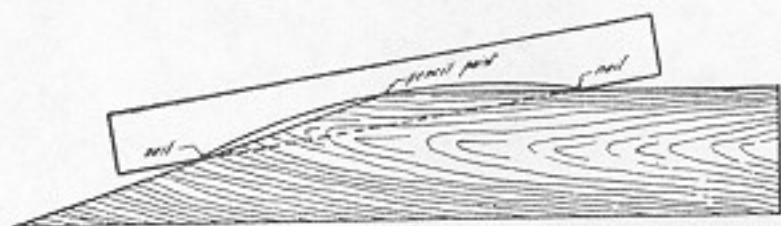

Fig. 52. Locating three points through which an arc is drawn.
2. The easiest way to do this job is to locate three points through which the arc must be drawn, and then a light board or a piece of plywood is cut so that it touches all three points (Fig. 52).